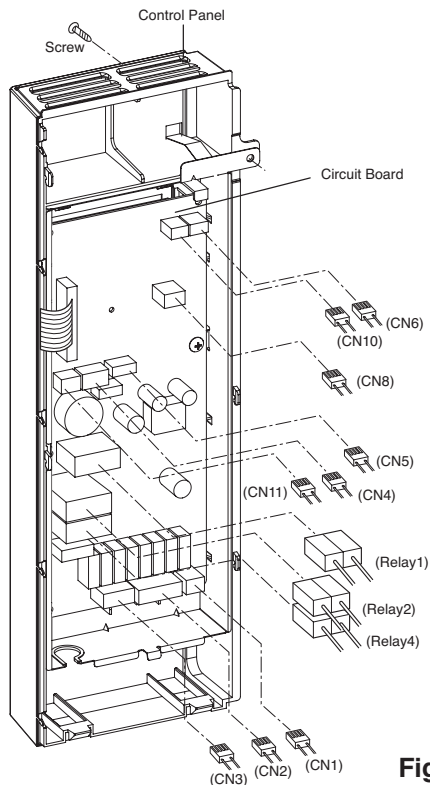

Figure 1
A. REMOVING POWER AND CONTROL CIRCUIT BOARD (Figures 1, 2 and 3)
- (1) Remove a screw securing the control panel assembly to the oven cavity.
- (2) Remove the control panel with pushing it upward.
- (3) Remove the five connectors (CN1, CN2, CN3, CN5, CN6, CN8, CN10, CN11) and wire leads (Relay1, Relay2, Relay4) from the circuit board.